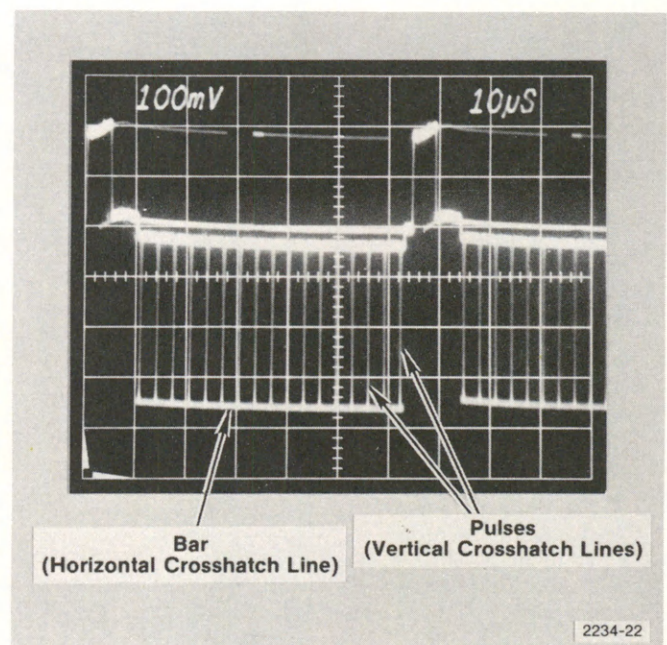

Fig. 6-5. Properly compensated crosshatch waveform at TP1151.
c. CHECK/ADJUST—With the monitor INPUT switch set to A, adjust C1375 so the pulses (vertical crosshatch lines) are the same amplitude as the bar (horizontal crosshatch line) as shown in Fig. 6-5. Set the INPUT switch to B, adjust C1331 for the same results.